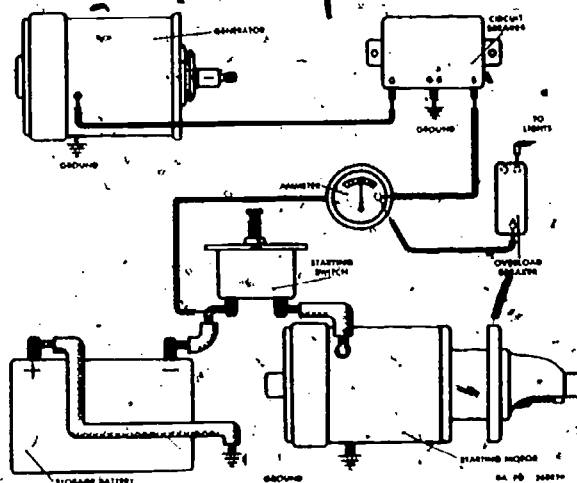

Fig 2-20. Simplified electrical circuit.
(4) Starting circuits. (fig 2-20).